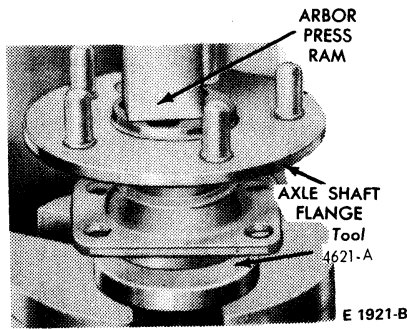

FIG. 3 Installing Rear Wheel Bearing
3. Place the bearing retainer plate on the axle shaft, and press the new wheel bearing on the shaft with Tool 4621-A (Fig. 3). **Do not attempt to press on both the bearing and the inner retainer ring at the same time.**